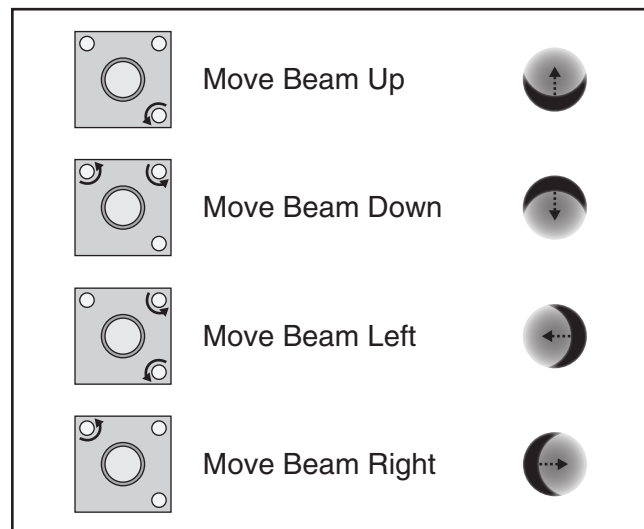

Figure 116. Mirror thumbscrew adjustment.
31. Adjust direction of beam path by tightening thumbscrews depending on desired direction of beam travel (see **Figure 116**).